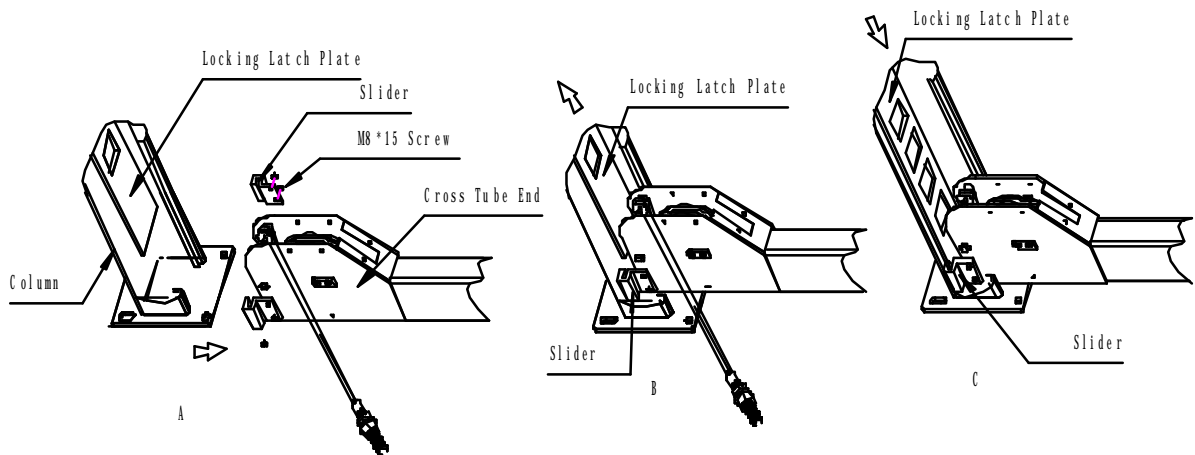

Fig.10
- I Bolt sliders onto each side of the cross tube ends. When both sliders are attached, push column toward cross tube end until sliders touch latch plate.(Fig.10 A,B,C)